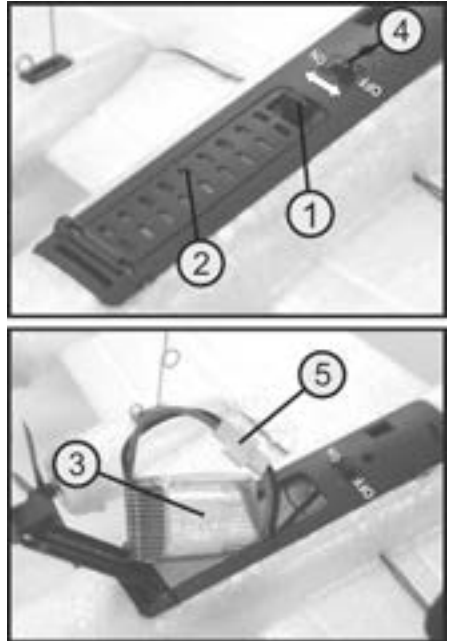

Figure 5
Before connecting the flight battery (3), check the on/off switch on the receiver (4). The switch must be in the "OFF" (= switched off) position, as shown in Figure 5.
Slide the on/off switch on the model (see also Figure 5, no. 4) to the "ON" position (= switched on).